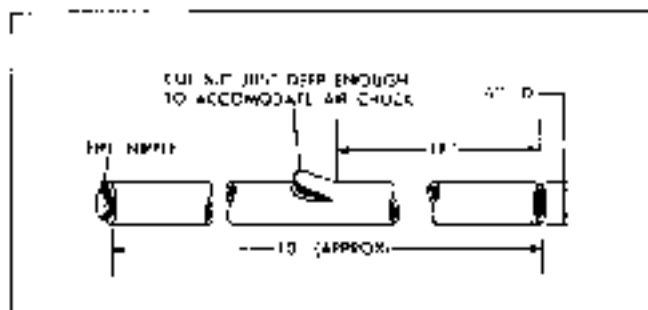

Fig. 8-1 Fuel Tank Drain Hose
1. Insert a length of hose (refer to Fig. 8-1 for details) into gas tank, pipe nipple end first, until weighted end of hose rests on bottom of tank.